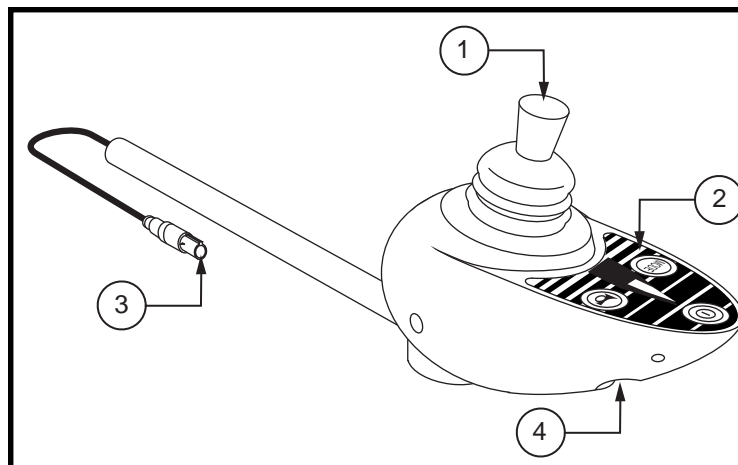

Figure 12. Remote Plus Master Remote
- master remote (See figure 12.)